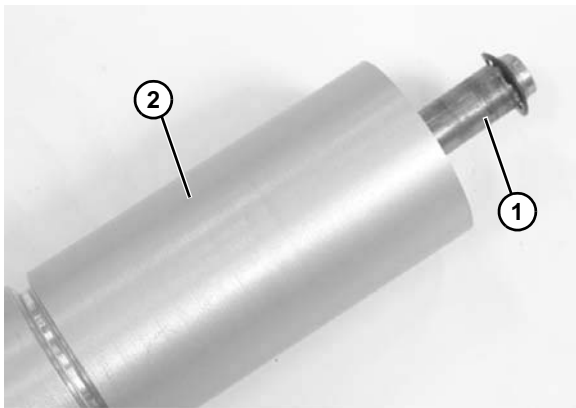

Figure 77
7. Slide the shaft assembly (Figure 77, item 1) out of the pulley (Figure 77, item 2).